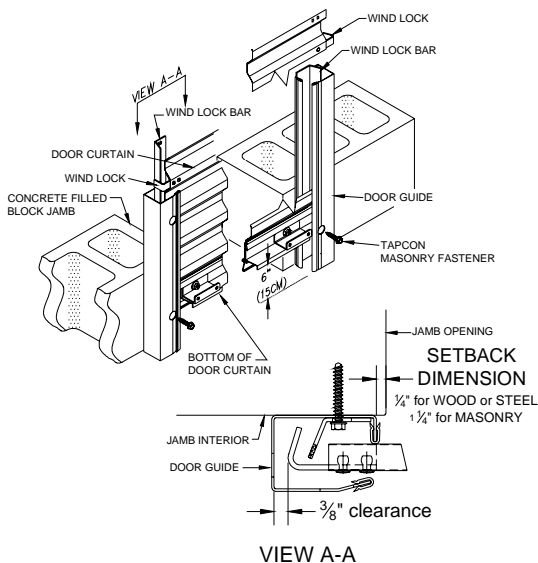

Figure 10.
8.1 Pull the door down to within 6" of the floor. Adjust door guides so there is 3/8" clearance between the windlock on the door curtain assembly (shown in Figure 10) and the inside of